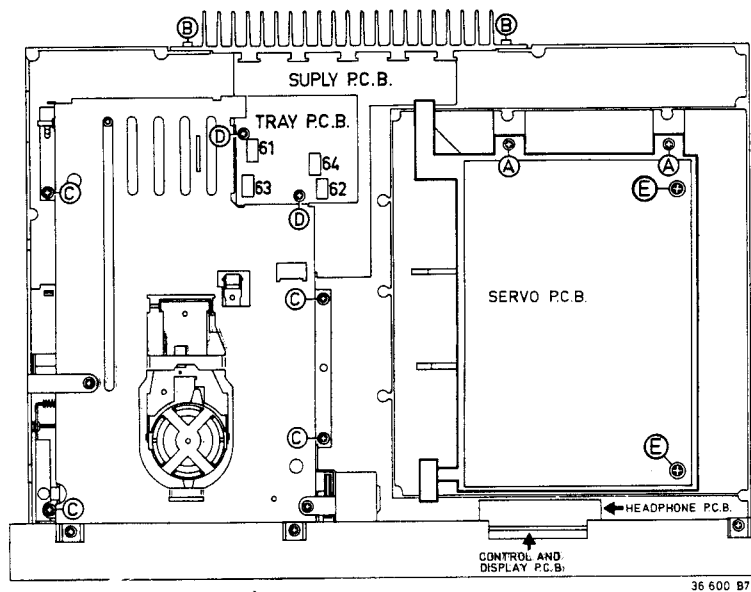

Fig. 3a
- Remove the 2 screws B (see Fig. 3a).
(see Fig. 3a)
- Remove the 4 screws C (see Fig. 3a).